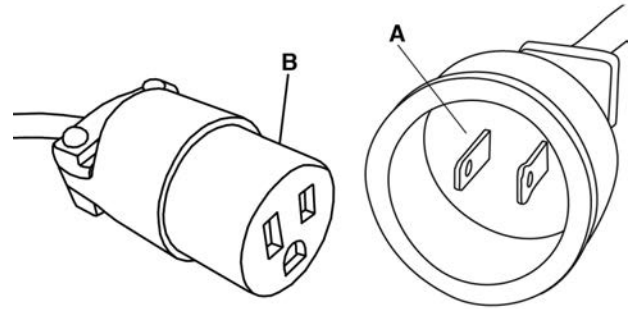

FIGURE 1
The snow thrower polarized plug (A) Fig.1 is intended for use with a polarized UL outdoor rated extension cord (B) as illustrated in Fig.1.
Double insulated tools are equipped with a polarized plug (Fig.1- one blade is wider than the other). This plug will fit in a polarized outlet only one way. If the plug does not fit fully into the outlet, reverse the plug. If it still does not fit, contact a qualified electrician to install a polarized outlet. Do not alter or change the plug in any way. Double insulation eliminates the need for three wire grounded power cords and grounded power supply system.